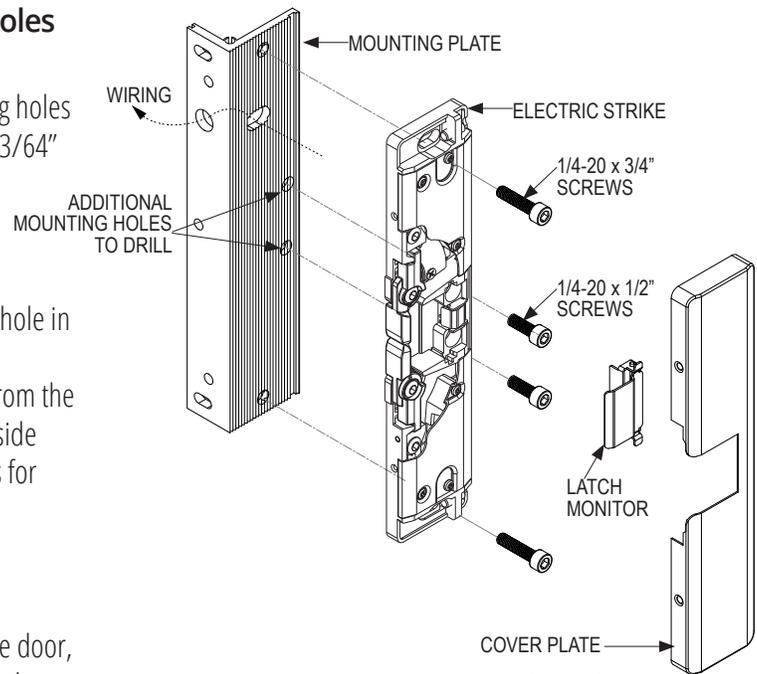

Figure 4.7 Mounting Holes for Strike
**Drill and Tap the Additional Mounting ScREW Holes for Strike (Figure 4.7)**
**Install the Electric Strike: (Figure 4.7 to 4.11)**
**Close the CX-RIM-SB (Figure 4.7 to 4.11)**